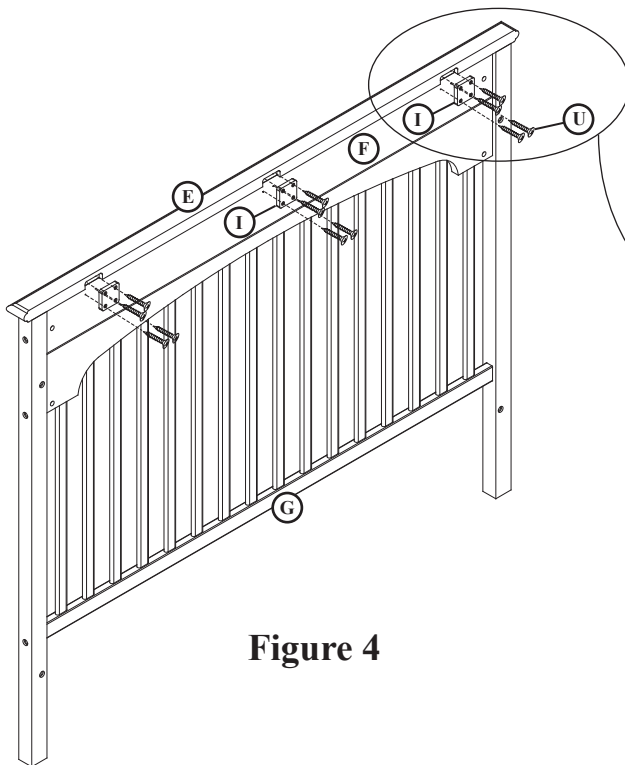

**Figure 3**
Attach the Back Rail Top(E) to the back rail using wood dowels (R), see Figure 3.